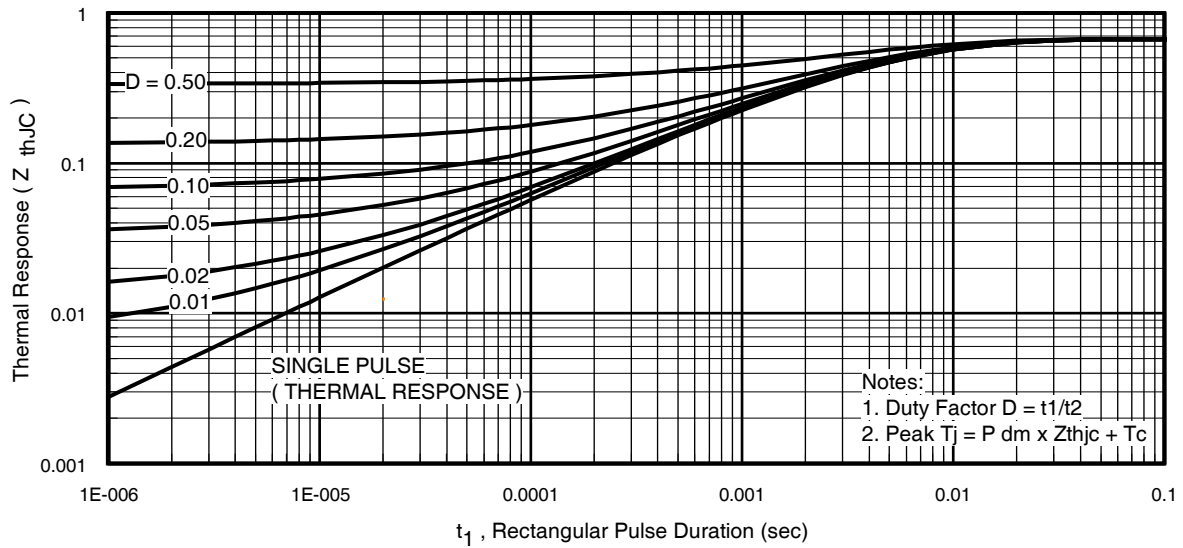
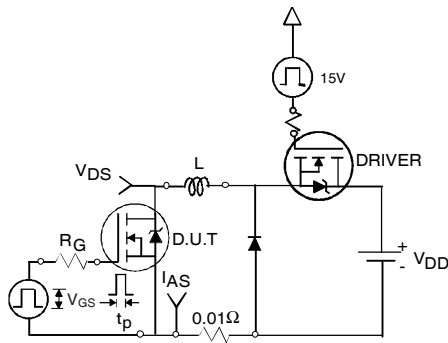

Fig 11. Maximum Effective Transient Thermal Impedance, Junction-to-Case
Fig 12a. Unclamped Inductive Test Circuit
- ① Repetitive rating; pulse width limited by max. junction temperature. (See fig. 11).
- ② Limited by T_{Jmax} , starting $T_J = 25^\circ\text{C}$, $L = 0.11\text{mH}$, $R_G = 25\Omega$, $I_{AS} = 75A$, $V_{GS} = 10V$. Part not recommended for use above this value.
- ③ Pulse width $\leq 1.0\text{ms}$; duty cycle $\leq 2\%$.
- ④ $C_{oss\text{ eff.}}$ is a fixed capacitance that gives the same charging time as C_{oss} while V_{DS} is rising from 0 to 80% V_{DSS} .
- ⑤ Limited by T_{Jmax} , see Fig.12a, 12b, 15, 16 for typical repetitive avalanche performance.
- ⑥ This value is determined from sample failure population, starting $T_J = 25^\circ\text{C}$, $L = 0.11\text{mH}$, $R_G = 25\Omega$, $I_{AS} = 75A$, $V_{GS} = 10V$.
- ⑦ This is only applied to TO-220AB package.
- ⑧ This is applied to D²Pak, when mounted on 1" square PCB (FR-4 or G-10 Material). For recommended footprint and soldering techniques refer to application note #AN-994.
- ⑨ TO-220 device will have an R_{th} value of 0.65°C/W .
- ⑩ R_{θ} is measured at T_J approximately 90°C .
- ⑪ Calculated continuous current based on maximum allowable junction temperature. Package limitation current is 160A. Note that current limitations arising from heating of the device leads may occur with some lead mounting arrangements. (Refer to AN-1140) <http://www.irf.com/technical-info/appnotes/an-1140.pdf>
3. Equation below based on circuit and waveforms shown in Figures 12a, 12b.
$Z_{thJC}(D, t_{av})$ = Transient thermal resistance, see figure 11)